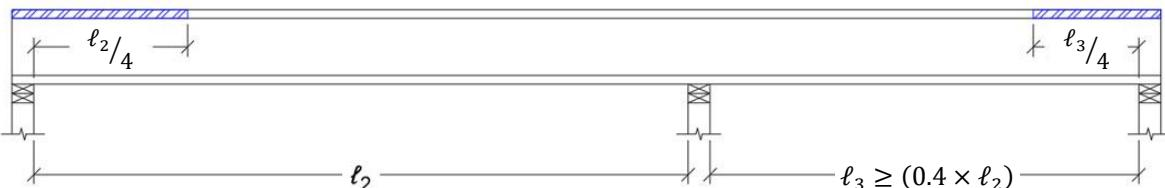

Figure 4: Location zones for a Side Flange Notch in simple and continuous TJI® joists (end bearing to quarter-span).
- One (1) inadvertent Side Flange Notch per TJI® joist (single-ply joist members only).
- Side Flange Notch permitted in location zones of top (compression) flange (see Figure 4 and Figure 5).
- See Figure 4 above.
[1] Confirm accordance with Conditions and Limitations on Page 1 and reference Figure 4, How to Use These Tables, and General Table Notes on Page 3.